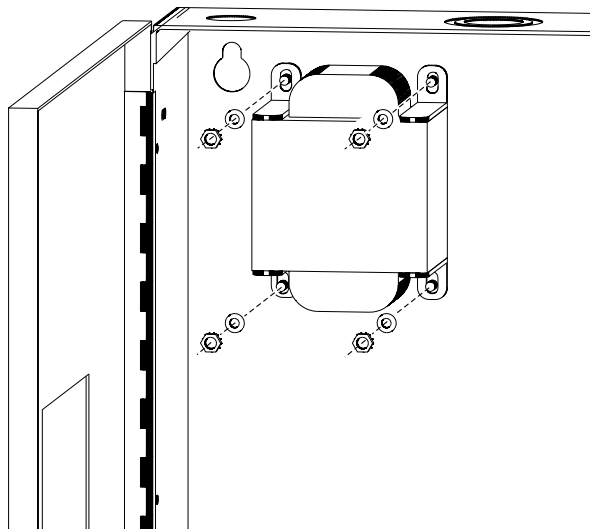

Figure 4
- 2. Fasten the power transformer to the inside of the enclosure.** Mount the transformer on the four studs in the upper left-hand corner of the LW41-EN enclosure, as shown in Figure 4, using the hardware provided.